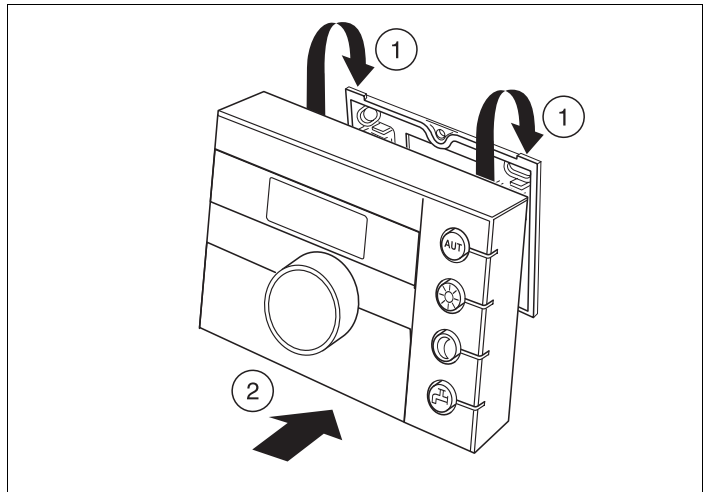

Fig. 5 Fitting the RC20 room controller
- Hook the top of the RC20 room controller to the mounting plate in the direction shown by the arrow (Fig. 5, **step 1**).
- Push the bottom of the RC20 room controller against the mounting plate in the direction shown by the arrow until it clicks into place (Fig. 5, **step 2**).
- Unclip the RC20 room controller from the bottom of the plate (Fig. 5, **step 2**) and unhook from the top.